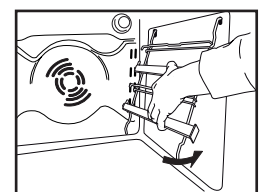

Fig. 4
4. Refit the side holder grills to the cavity (Fig. 4).